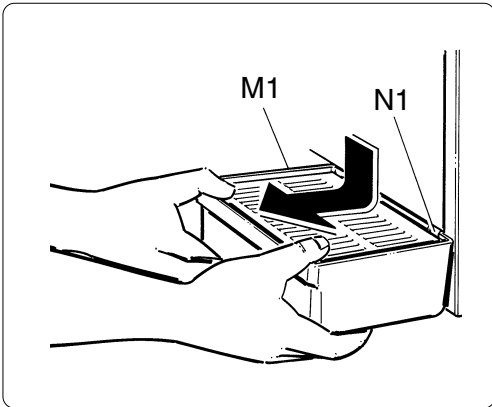

Fig. 40
o) Dismount the drip collector tray (M1), pulling it downwards then out (fig. 40).